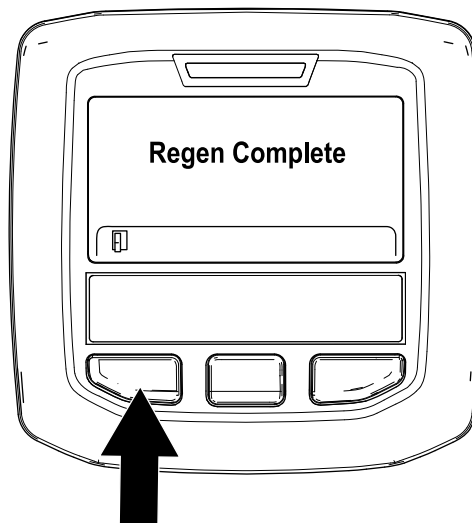

Figure 52
9. The parked regeneration is complete when the "Regen Complete" message displays in the InfoCenter. Press the left button to exit to the home screen (Figure 52).